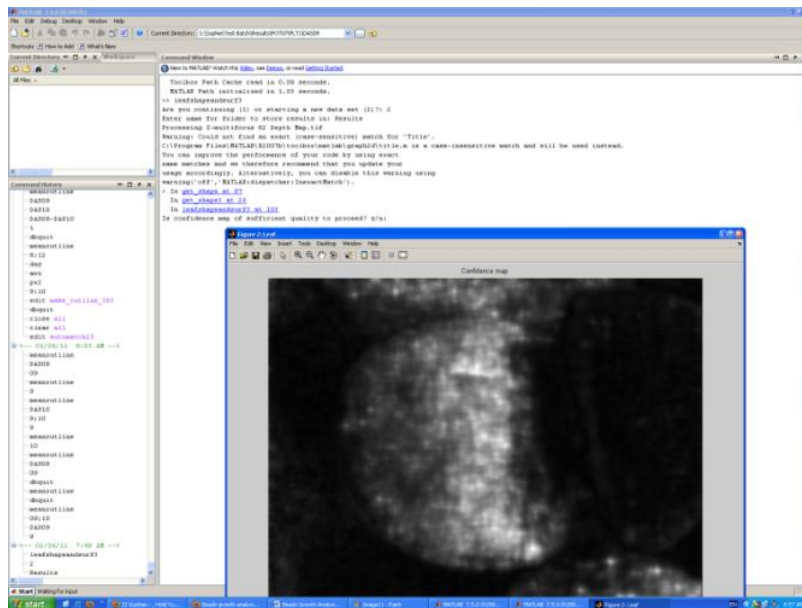

Figure 5. Confidence map
3. Evaluate the quality of the confidence map (Figure 5). Press "y" (yes) for a map of sufficient quality or "n" (no) for a map of insufficient quality. In the latter case, the program will skip to the next image of the data set. Delete all images of insufficient quality (Note: Verify the confidence map during imaging to avoid this problem. i.e. black corresponds to 0% confidence in the depth map and accuracy and white corresponds to 100%, so make sure regions of the leaf surface are not too dark. Note that in Figure 5 the leaves are just emerging and it may not be possible to do better, but we would prefer to avoid having the dark values at the base of the leaf).